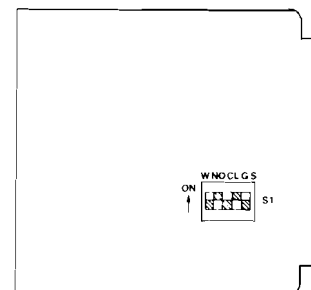

figure 3. 4409 option switch location
2.05 The 4409 module has no user-adjustable controls and therefore requires no alignment. However, the five positions of DIP switch S1 must be properly set before the module is placed into service. Table 2 lists the required S1 switch-position settings for both voice-paging conference applications and non-Tellabs selective-signaling applications. Figure 3 shows the location of switch S1 on the 4409's printed circuit board.